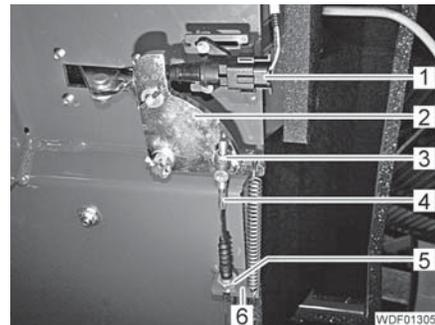

Fig. 338 Bowden cable attachment
- Disconnect the plug from the switch (Fig. 338,1) of the parking brake.
- Unscrew the nut (Fig. 338,3) and pull the Bowden cable from the holder (Fig. 338,2).
- Undo the nut (Fig. 338,5).
- Remove the Bowden cable (Fig. 338,4) to the side from the holder (Fig. 338,6).